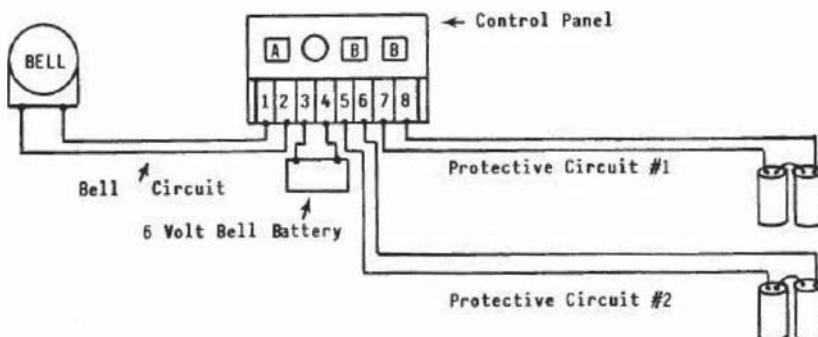

Figure 5-2.
The use of a two-zone control panel is a good way to counter this trick. Fig. 5-2 depicts the layout of a two-zone system. Note the differences between this layout and those seen in previous, single-zone diagrams: This control instrument has a second protective circuit relay (B) and another pair of terminals on the connecting strip, (7 & 8) which accommodates the additional protective circuit. Everything else is the same.